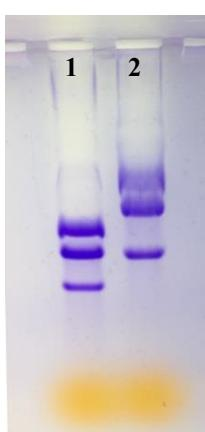

Figure 1. Agarose gel electrophoresis using the gel containing Crystal Violet.
8. Monitor the long ssDNA blue bands moving in the gel during electrophoresis (Figure 1). Stop the electrophoresis after the bands are sufficiently resolved.*^{11, *12}